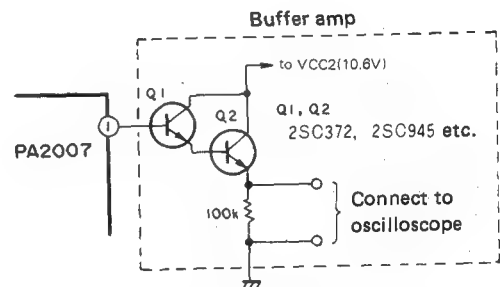

Fig. 11-3 Buffer amp connection
4. Connect the buffer amplifier to pin ① of IC1 PA2007 of the motor circuit P. C. board unit as shown in Fig. 11-3 and connect the output to an oscilloscope.